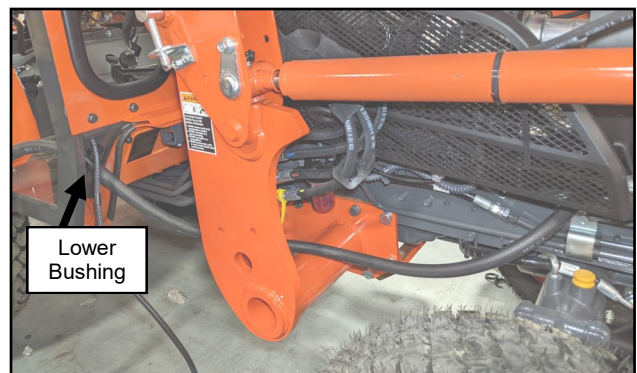

Fig. 15.10 (Route Hose Into Cab)
- 15.10 Route the 5/8" hose along the right side of the engine and through the lower snap bushing in the floorboard. Use the natural curve in the hose to orient it and prevent kinking. See Figure 15.10.